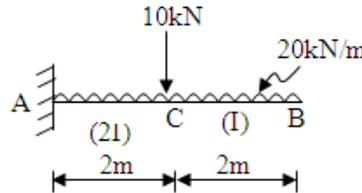

Fig.5
- (c) Find slope & deflection at free end of the beam shown in Fig.5 by Moment area method. $E = 200$ Gpa and $I=16500 \times 10^4 \text{ mm}^4$. **07**